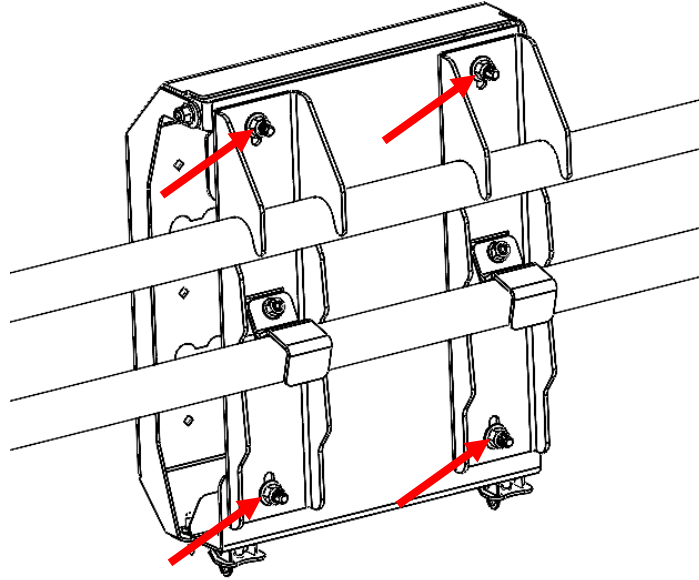

Figure 3: Installing MaxTrax Clamshell onto Brackets
3. MaxTrax Mounting Option 1: Use the 5/16" hardware included with your Aluminess Clamshell to secure the Clamshell to the mounting brackets as shown in Figure 3.